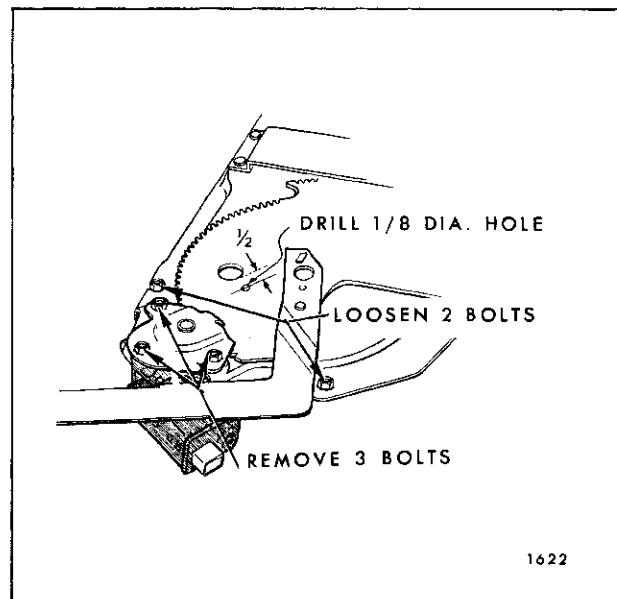

Fig. 9-11—Tail Gate Regulator Motor Assembly
4. Drill a 1/8" hole through regulator sector and back plate (See Fig. 9-11). DO NOT drill hole closer than 1/2" to edge of sector gear or back plate. Install a pan head sheet metal tapping screw (#10-12 x 5/8) in drilled hole to lock sector gears in position.